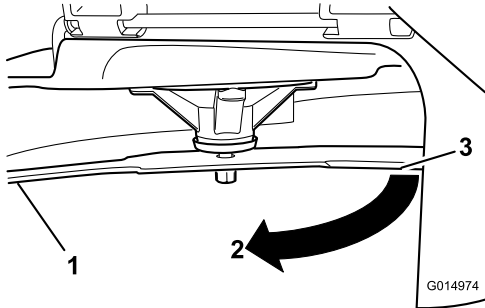

Figure 58
3. Second measured distance between blade and surface (B)
4. Rotate the same blade 180 degrees so that the opposing cutting edge is now in the same position (Figure 58).